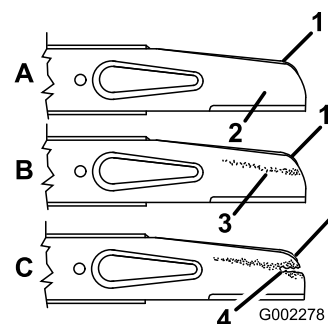

Figure 29
Carefully examine the blade for sharpness and wear, especially where the flat and the curved parts meet (Figure 29A). Because sand and abrasive material can wear away the metal that connects the flat and curved parts of the blade, check the blade before using the mower. If you notice a slot or wear (Figure 29 B and C), replace the blade; refer to Removing the Blade.
2. Remove the blade bolt, the lock washer, the accelerator, and the blade (Figure 29).